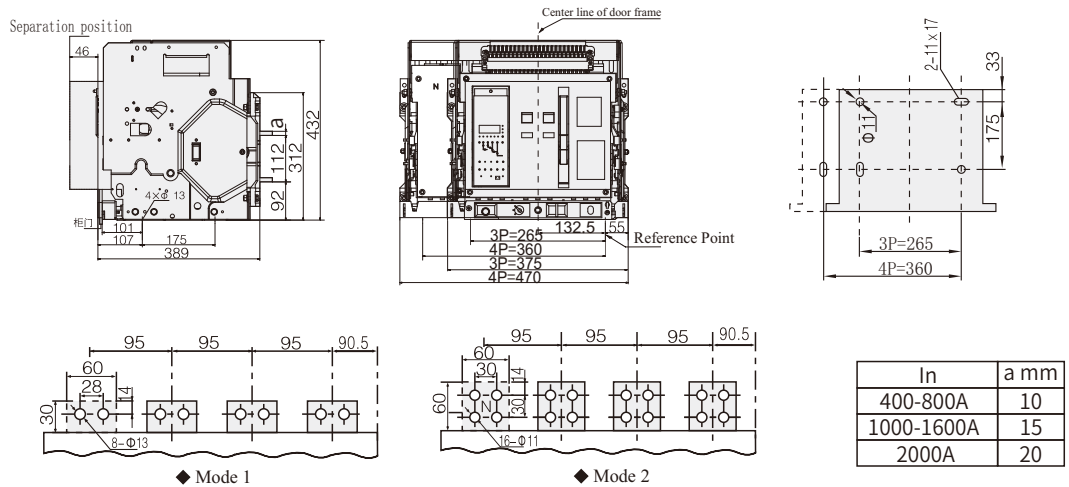

Figure 20 Installation of the drawer circuit breaker and overall dimension (Inm = 2000A three-pole, quadropole)
6.5 The installation of YCWI-2000A drawer circuit breaker and overall dimension are shown in Figure 20.